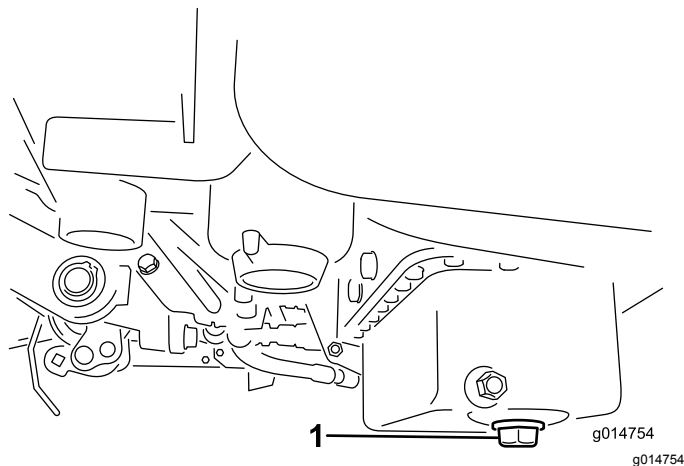

Figure 39
1. Remove the drain plug and let oil flow into a drain pan. When the oil stops, install the drain plug (Figure 39).